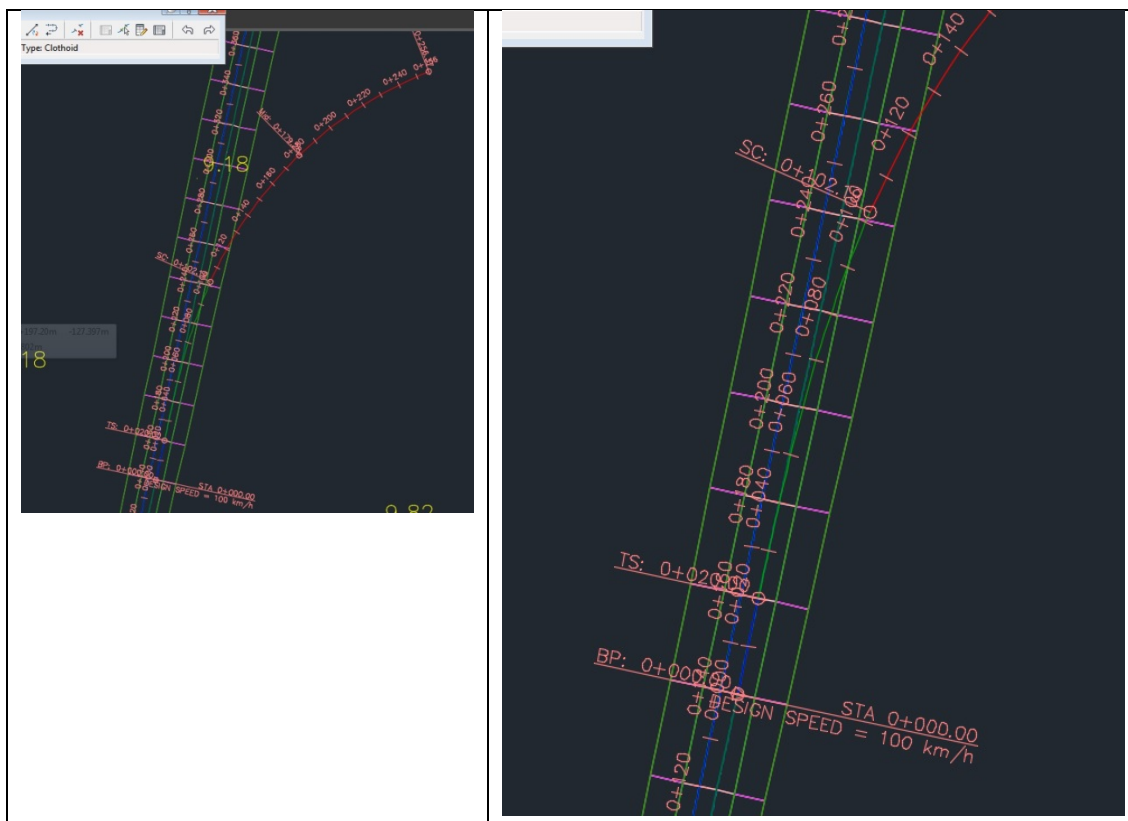

Fig. 4. AL2.
5. From now on, we will work with both surfaces hidden. Starting in PK 0+140 in AL1, create a second alignment AL2 according to the conditions given in table 1. The result should look like fig. 4.